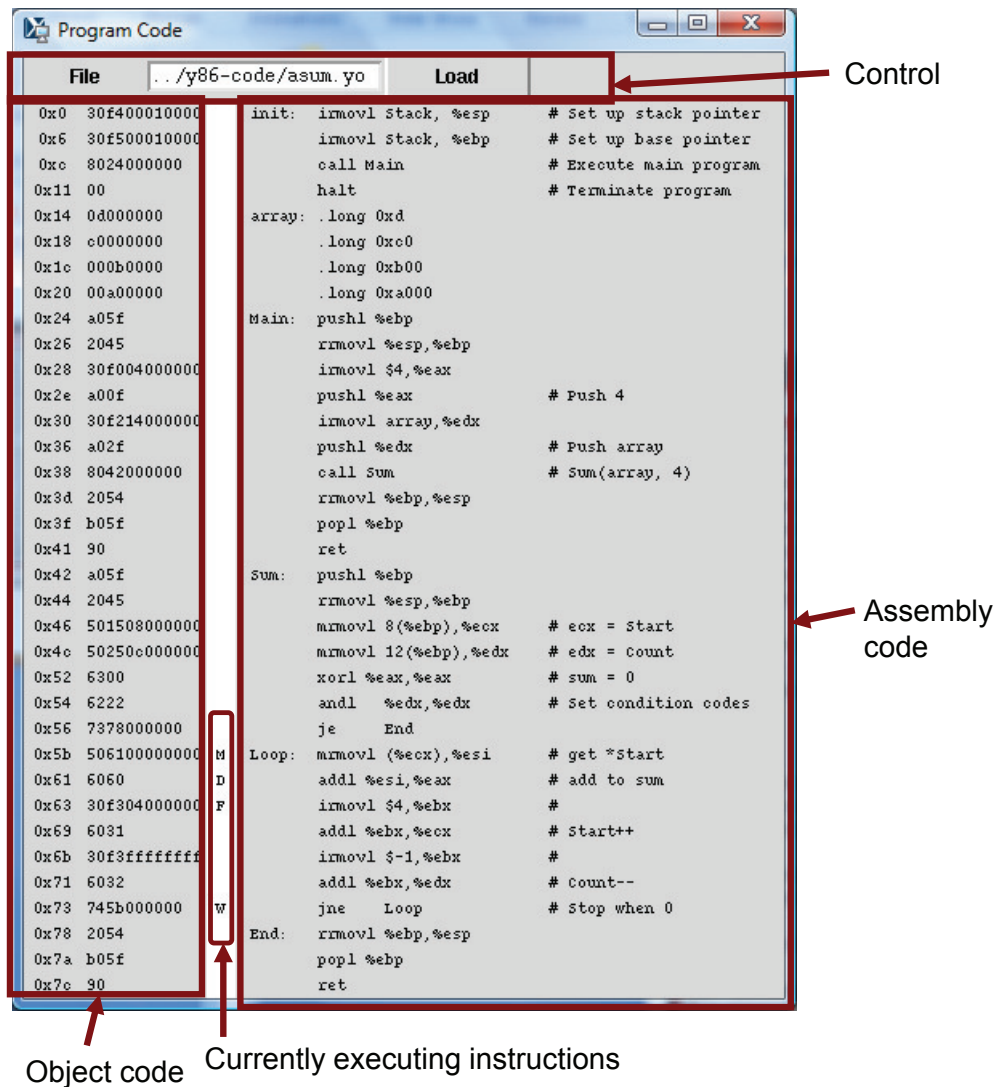

Figure 8: Code display window for PIPE simulator
Figure 8 shows the code display for the PIPE simulator. The format is similar to that for SEQ and SEQ+, except that rather than a single marker indicating which instruction is being executed, the display indicates which instructions are in each state of the pipeline, using characters F, D, E, M, and W, for the fetch, decode, execute, memory, and write-back stages.
**Execute:** This stage contains a bubble. The bubble was inserted due to the load-use dependency between the `rrmovl` instruction (line 34) and the `addl` instruction (line 35). It can be seen that this bubble acts like a `nop` instruction. This explains why there is no instruction in Figure 8 labeled with “E.”